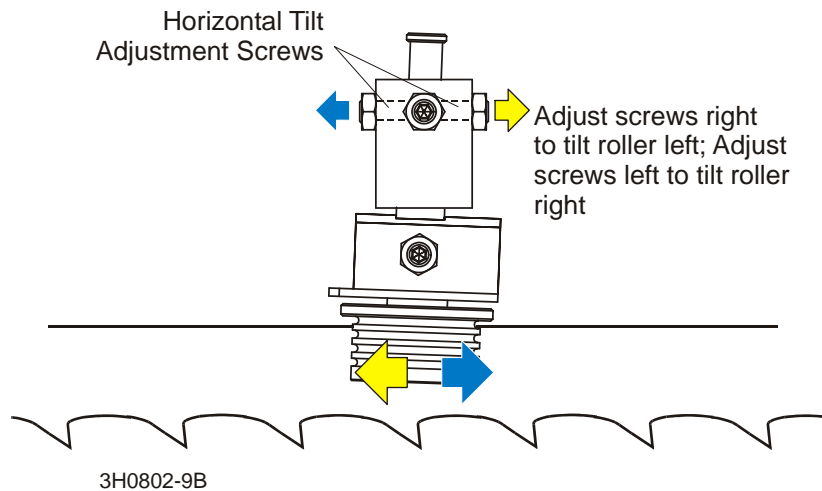

FIG. 5-45
**See Figure 5-45.** Loosen the jam nuts on the horizontal tilt adjustment screws. To tilt the roller left, loosen the right screw and tighten left screw. To tilt the roller right, loosen the left screw and tighten the right screw. Tighten the jam nuts and recheck the tilt of the blade.